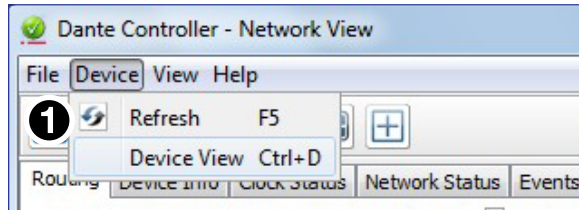

Figure 30. Selecting the Device View Dialog Box
1. From the Dante Controller toolbar, select **Device > Device View** (see figure 30, ❶).